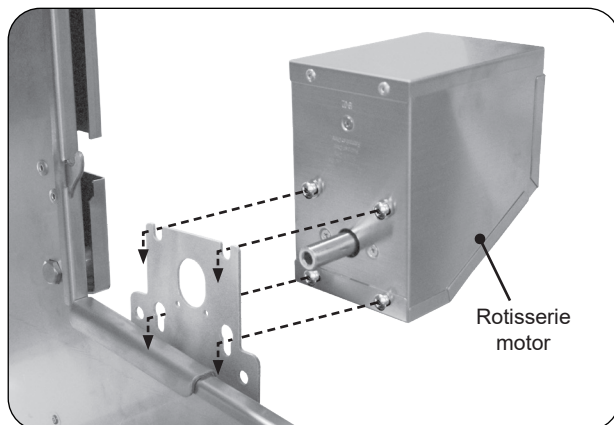

Fig. 41-2 Install rotisserie motor
2. Slide the rotisserie motor fully onto the motor bracket located on the right side of the grill (see Fig. 41-2) and connect it to a power source (do not turn on).